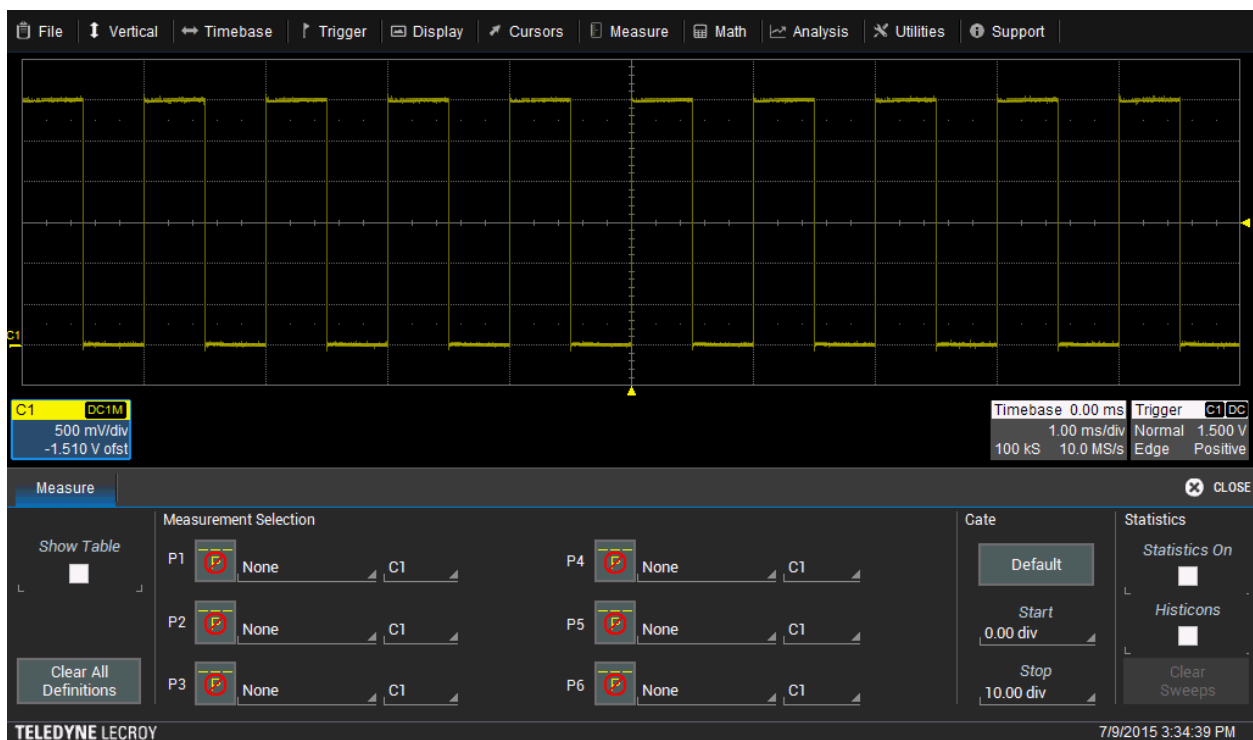

Figure 7: The Measure dialog enables easy setup of measurements
- Touch the Measure Setup button to open the Measure dialog (Figure 7).